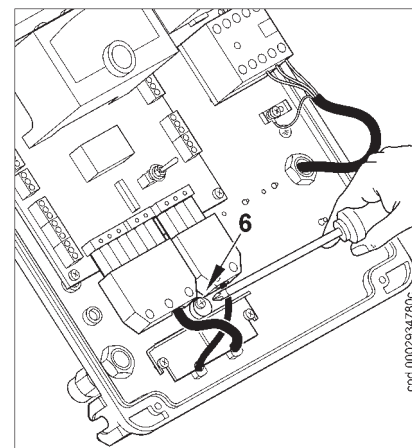

Figure 3
- 3) Reposition the cable float as shown in figure 3. Turn the cam (6) so that the float exerts sufficient pressure on the two cables, then tighten the screws that fasten the cable float. Finally, connect the two 7 and 4-pole plugs.